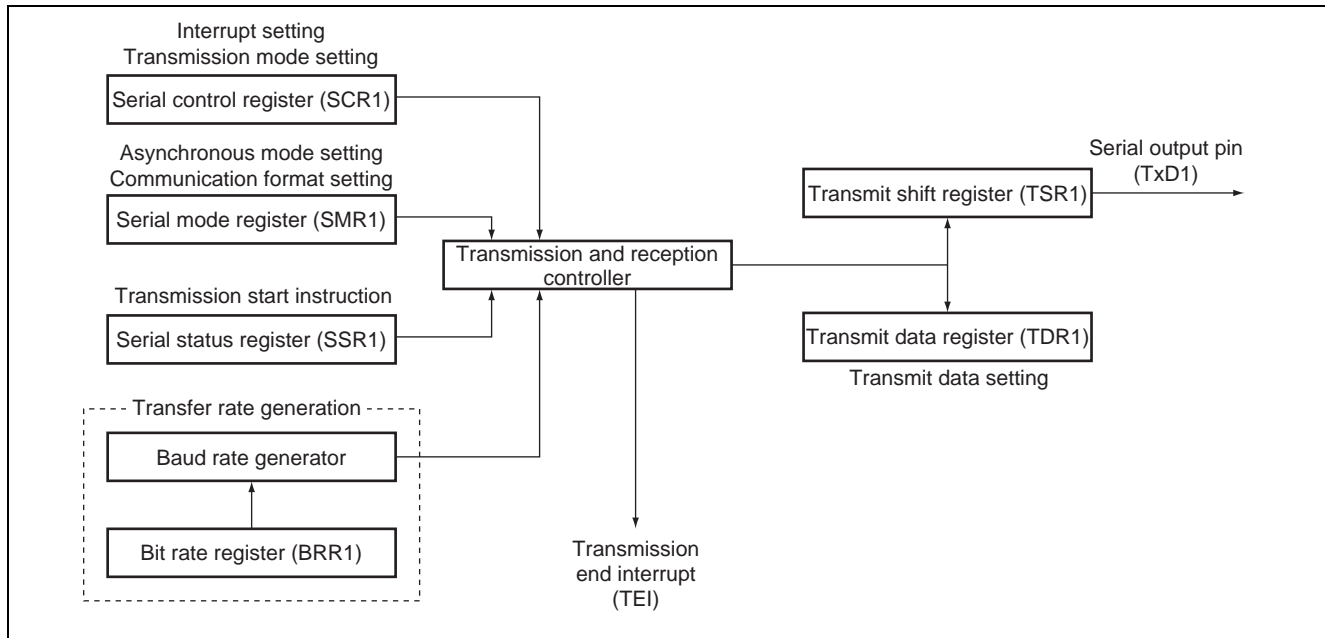

Figure 2 Block Diagram of SCI Transmission
A. The transmission block diagram of SCI used by this sample task is shown in figure 2.